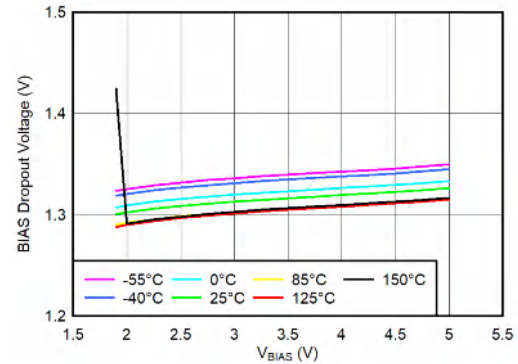

Figure 6-29. V_{IN} Dropout Voltage vs $(V_{BIAS} - V_{OUT})$ and Temperature (T_J)
- (1) Adjustable devices tested at 0.8 V; resistor tolerance is not taken into account.
- (2) Dropout is defined as the voltage from V_{IN} to V_{OUT} when V_{OUT} is 3% below nominal.
- (3) 3.25 V is a test condition of this device and can be adjusted by referring to Figure 6-29.